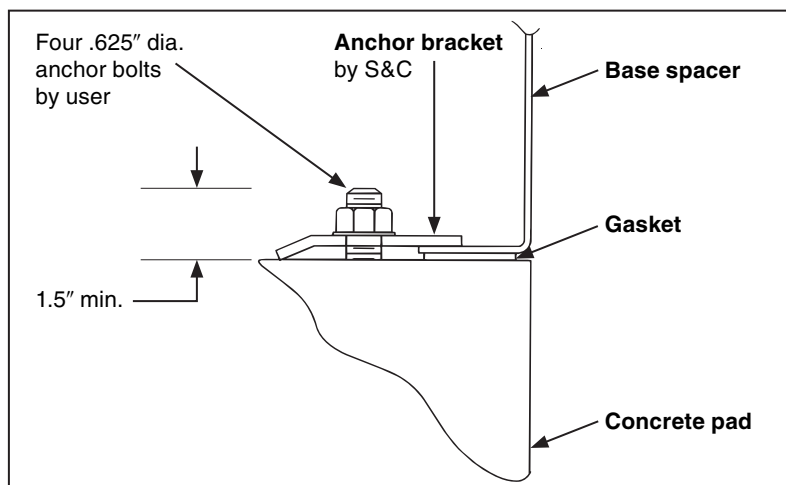

Figure 4. Anchor bracket.
4. Secure the base spacer to the pad using the anchor brackets provided. See Figure 4.